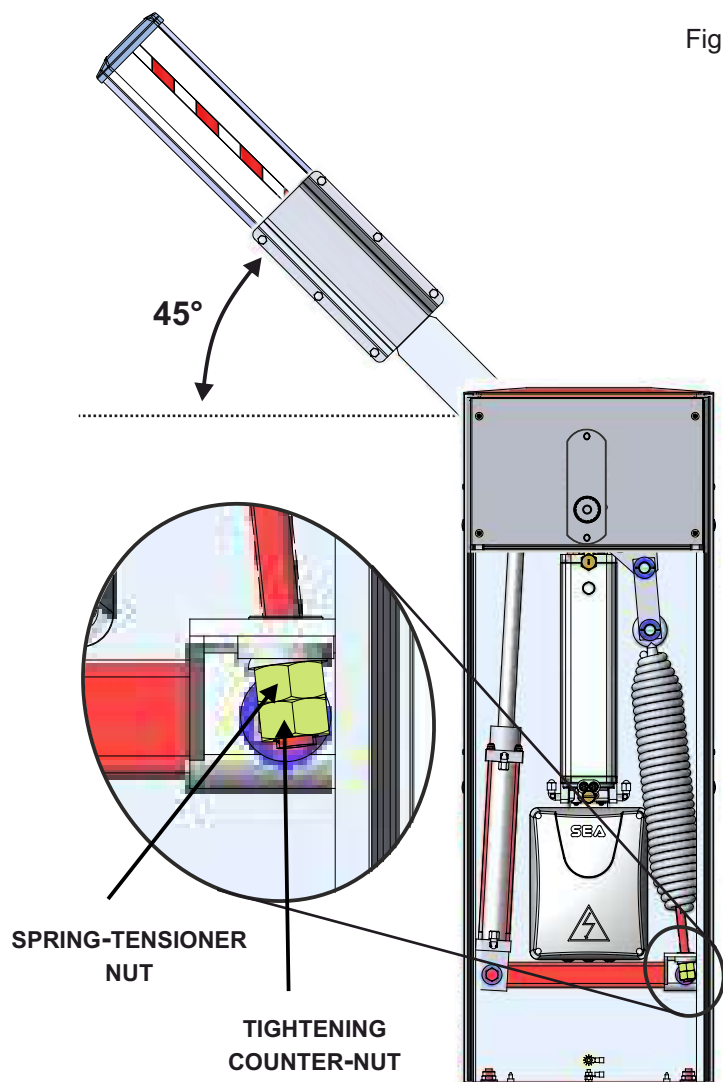

Fig. 14
7.3. Tighten or loosen the spring-tensioner nut until the spring counter-balances the weight of the arm placed at 45°; The optimal balancing position is when the arm stays in the position shown in Fig. 14